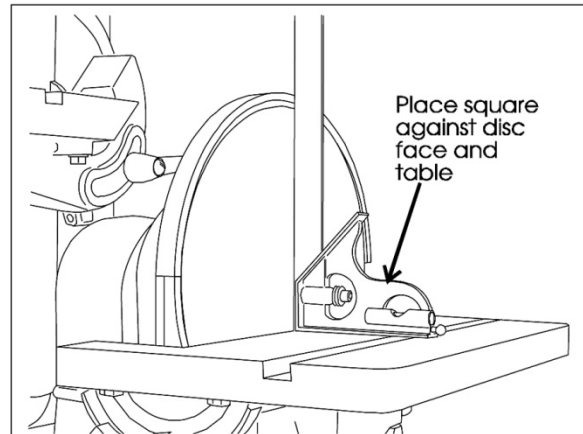

Figure 15: Using a square to check the disc table scale.
3. Using a machinist's square against the table and disc, set the table at exactly 90° to the disc (See Figure 15).